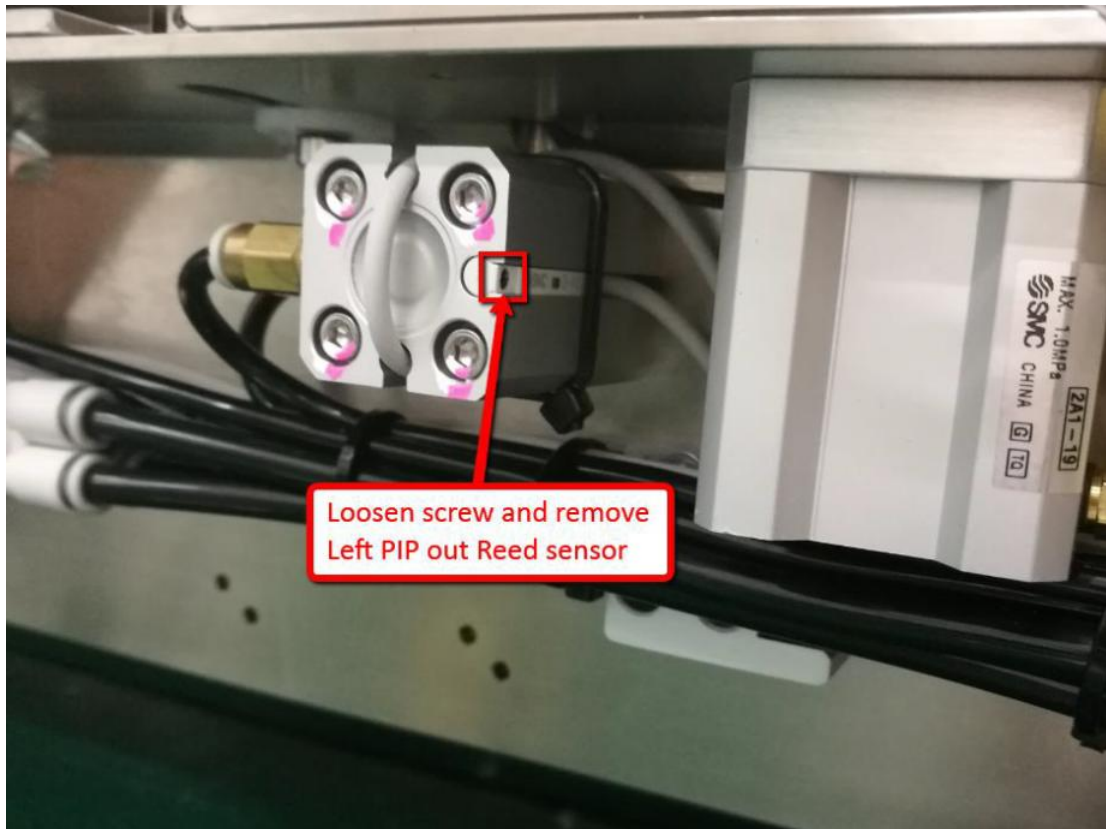

Figure 17 Left PIP Out Reed Sensor Removal
6. Loosen screw and remove Left PIP Out Reed Sensor as shown in Figure 17 below.